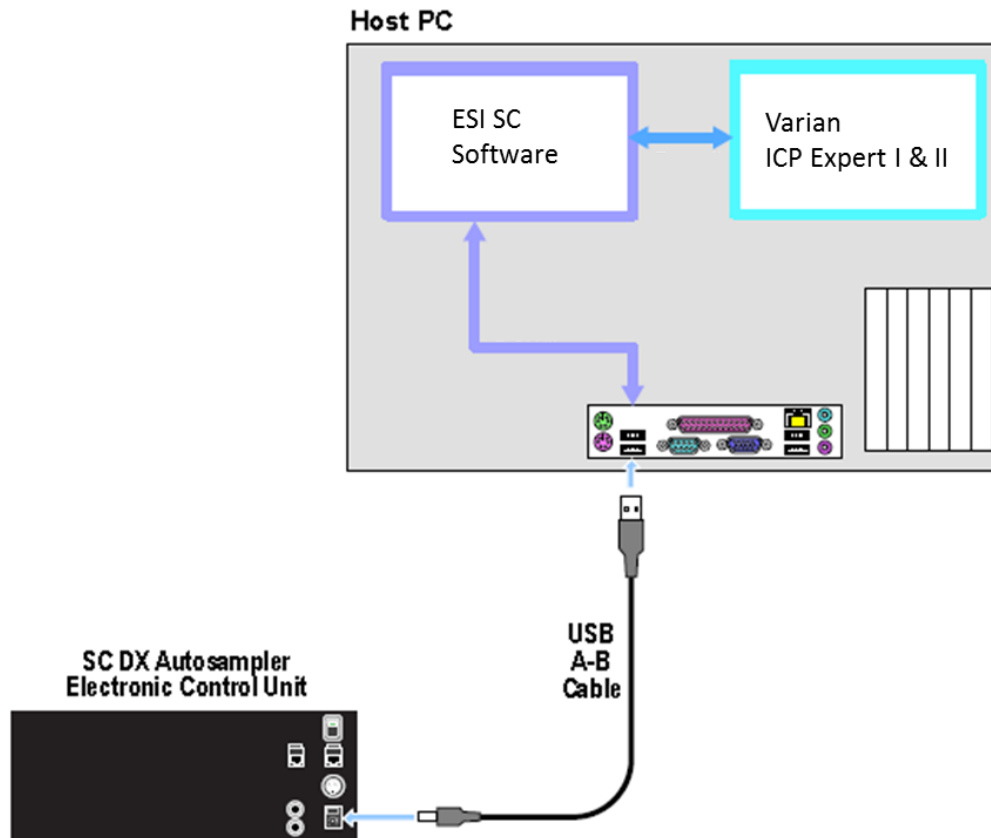

Figure 40: Connection options for ICP-Expert and ESI SC with SC autosampler.
- 2) Connect the USB cable from the computer to the SC Autosampler. See Figure 40. Connect 24 VDC power to the SC Autosampler.